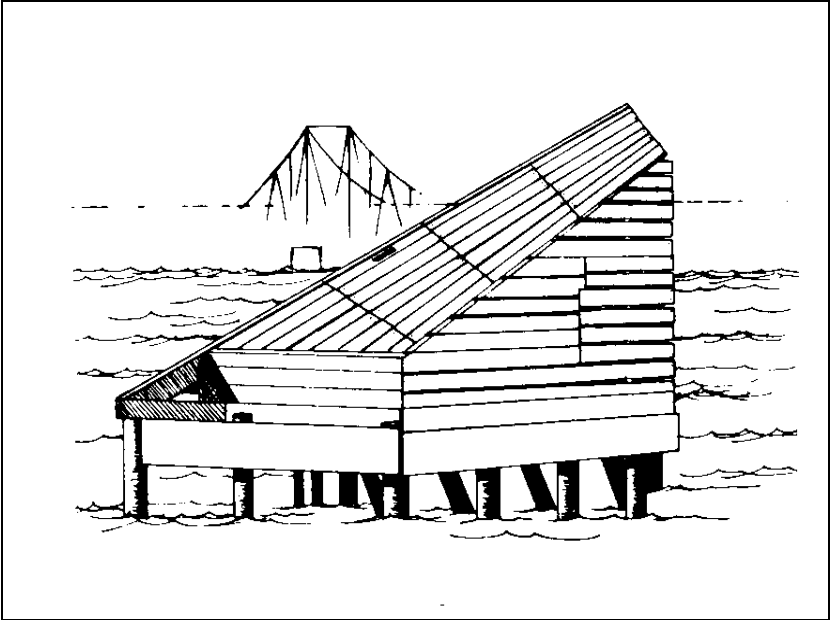

Fig 14-4-10 Completed Ice Breaker
30. Bridges require extensive protection against ice. Ice flows may hit and cause considerable damage, and ice dams, up and down-stream can impound water create flood conditions at the bridge. The protection of a pier is usually provided by an ice breaker as illustrated in Fig 14-4-10. The steel cutting edge slopes from above the highest water level to below the lowest expected level. The ice rides up the ramp, breaks under its own weight and slides off the tent-shaped top into the waterways on either side of the pier.